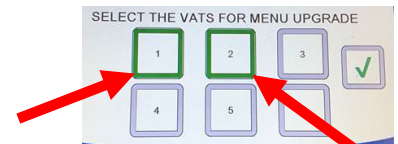

Figure 15
37. Select the vats that the selected menu file in previous step should update. Select 1 and 2. **1 and 2 should be highlighted in GREEN** (see Figure 15).